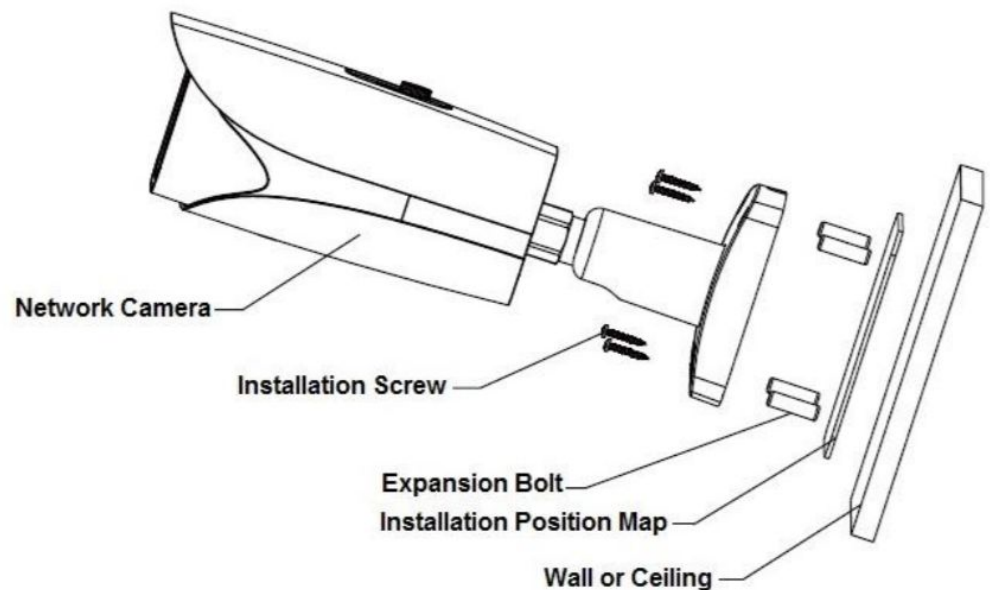

Figure 2-2
**Step 3** Align the screw holes of the camera base with the mounting hole sites, and then drill the mounting screws into the screw holes until they are held firmly. See Figure 2-2